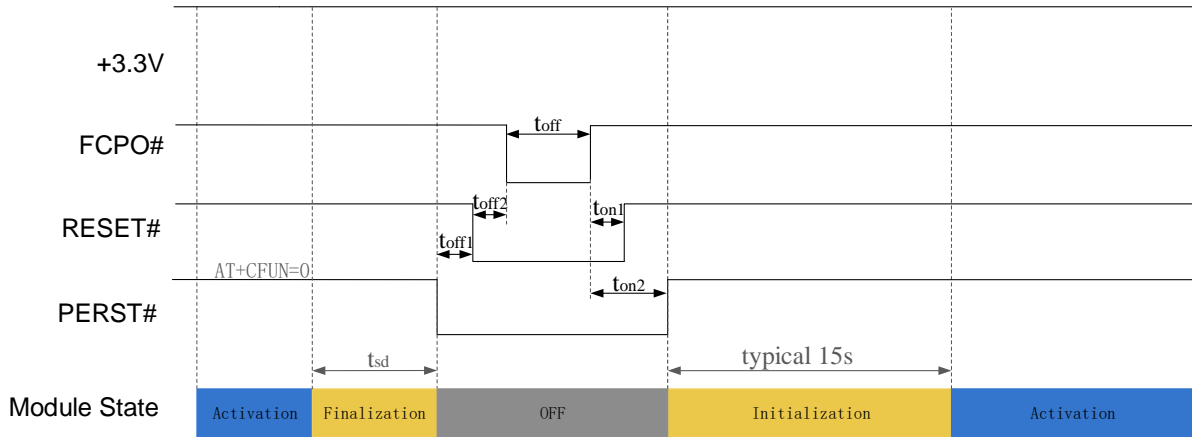

Figure 3-9 Reset control timing^{2nd}
- Reset timing 2nd in Figure 3-9, PMU of module internal will be off in reset sequence (including whole power off and power on sequence, t_{sd} can refer section 3.3.2), recommend using in system warm boot.